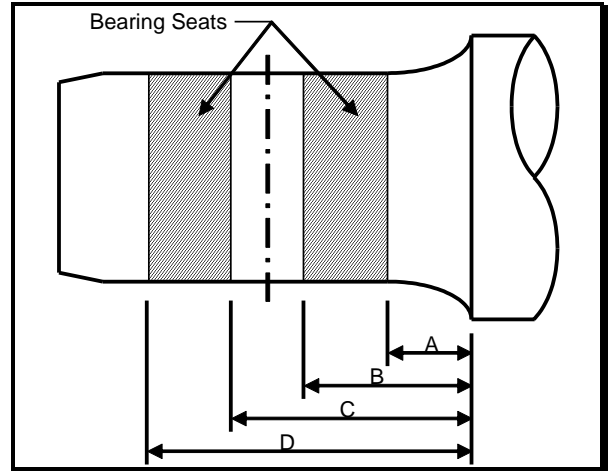

Figure 2 – Bearing Seat Areas
- 4) **Measure the bearing seats**. This is necessary to insure proper interference fit between the bearing and journal and to obtain the proper mounted lateral. Figure 2 shows the bearing seat locations. Specific dimensions are located in Table 1 (AAR Fig. 4.4; gauge in AAR Fig. 5.18).